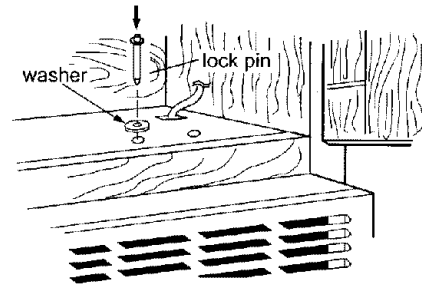

Figure 31
3. Drop the lock pin and washer assembly into hole N (left side hole) and push the pin down as far as it will go. See Figure 31.